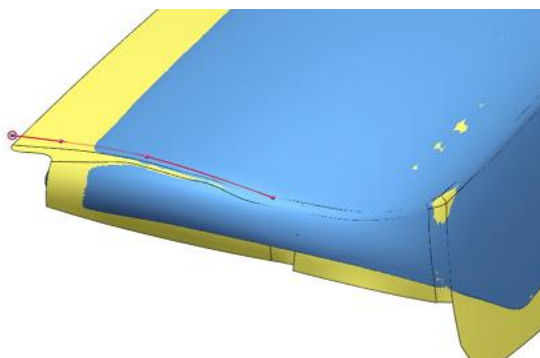

Figure 242
- Draw the first spline at the edge of the **Fillet1** surface body to the first seam. (**Figure 242**).